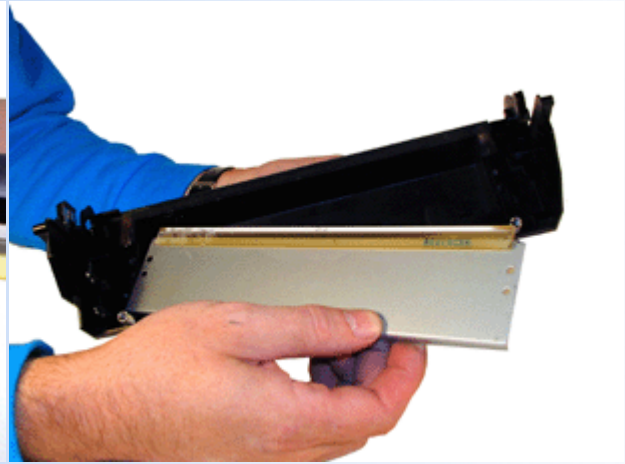

FIGURE 6
6. Remove the wiper blade, and clean out any waste toner from the chamber. See Figure 6